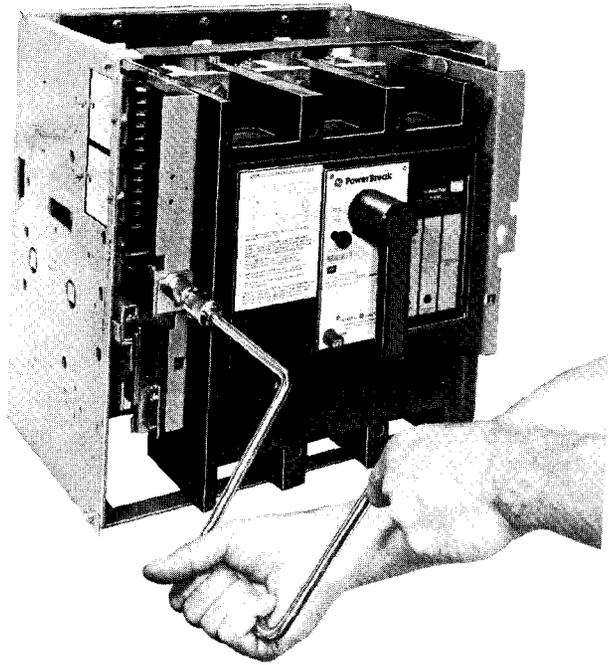
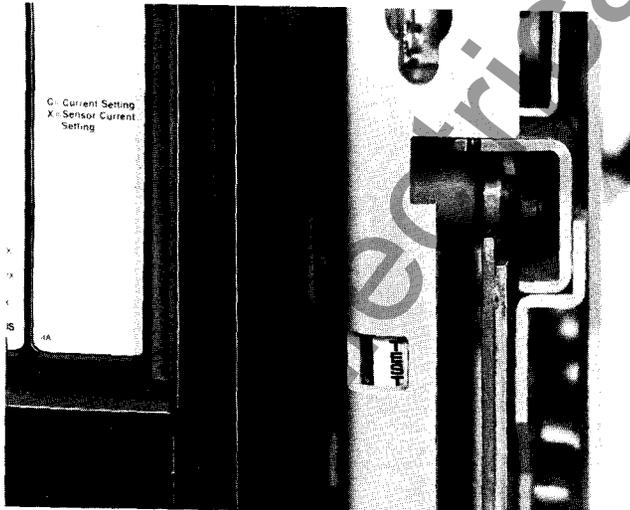

Fig. 7
Fig. 8
6. Engage the 1/2" square end of the racking shaft with wrench, cat. no. TDORT, Fig. 7 and rotate shaft clockwise to draw in the breaker to the test or connected position. (Fig. 8) shows the compartment position indicator on the right side of the breaker.
3. Engage the 1/2" square end of the racking shaft with wrench, cat. no. TDORT, (Fig. 7) and rotate the shaft counter clockwise to withdraw the breaker to the "TEST" or "DISCONNECTED" position. (Fig. 8)